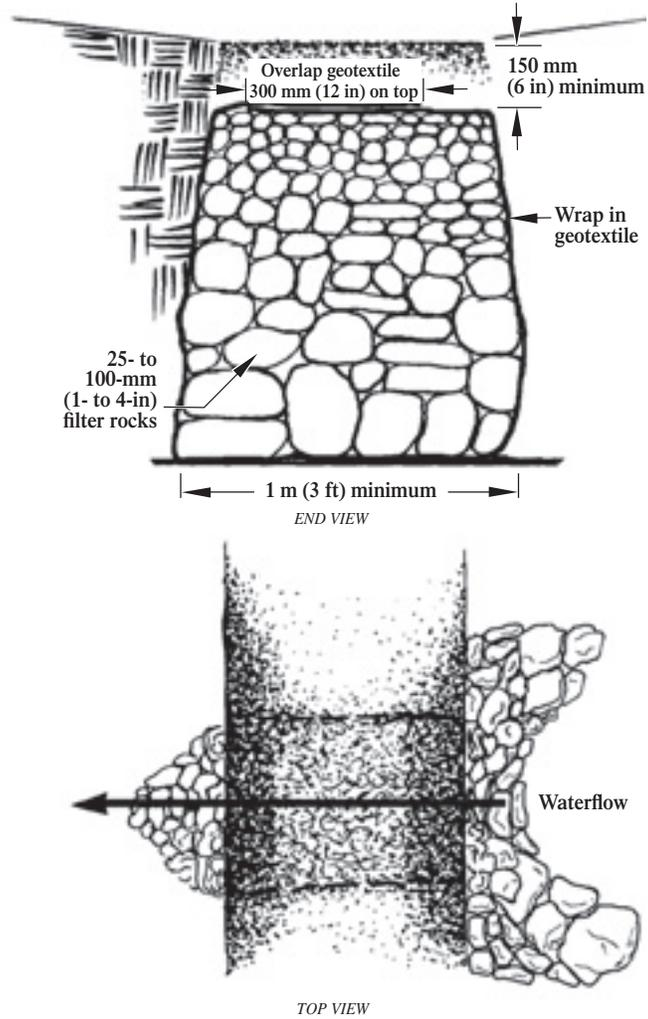

Figure 39—Wrapping rock underdrains with geotextile helps prevent them from clogging. Rock underdrains are used to drain low-flow springs and seeps.
*Rock underdrains* (often called *French drains*) are ditches filled with gravel. They can be used to drain a spring or seep running across the trail. Wrap the gravel with geotextile to help prevent silt from clogging the rock voids. Start with larger pieces of rock and gravel at the bottom, topping off with smaller aggregate (figure 39). Finish the drain with 150 millimeters (6 inches) of tread material so that the surface matches the rest of the trail.